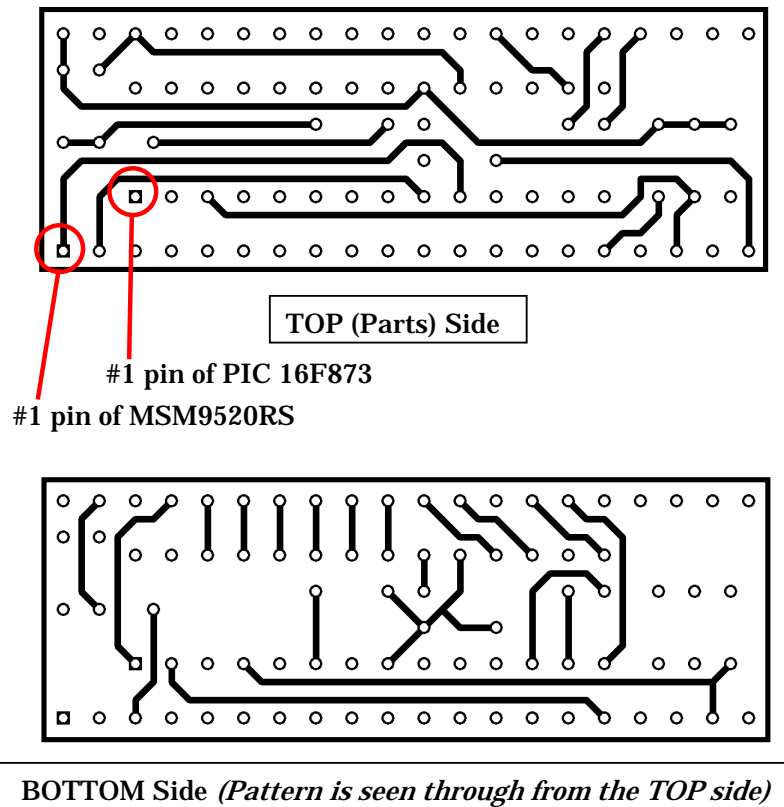

Fig. 4 Patterns of the Conversion Board for each Side
- Spend a while to determine the “sides” (TOP or BOTTOM) of the conversion board and the location of the #1 pin for the integrated circuit referring to Fig. 4.
(Step 4) Install the conversion board on the DISPLAY COUNTER UNIT and solder pin-header pins. Inset the microcontroller chip, PIC 16F873 making sure to match the #1 pin. (Refer to Fig. 4 for the location of the #1 pin)